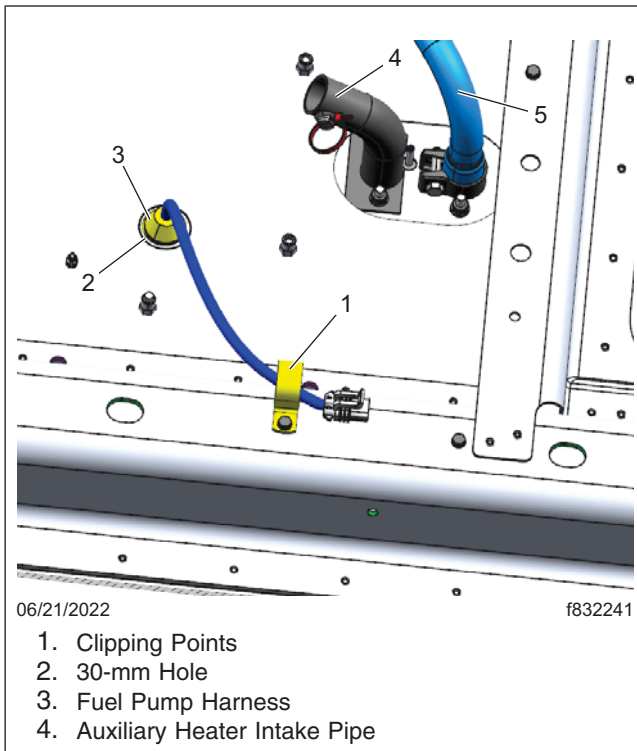
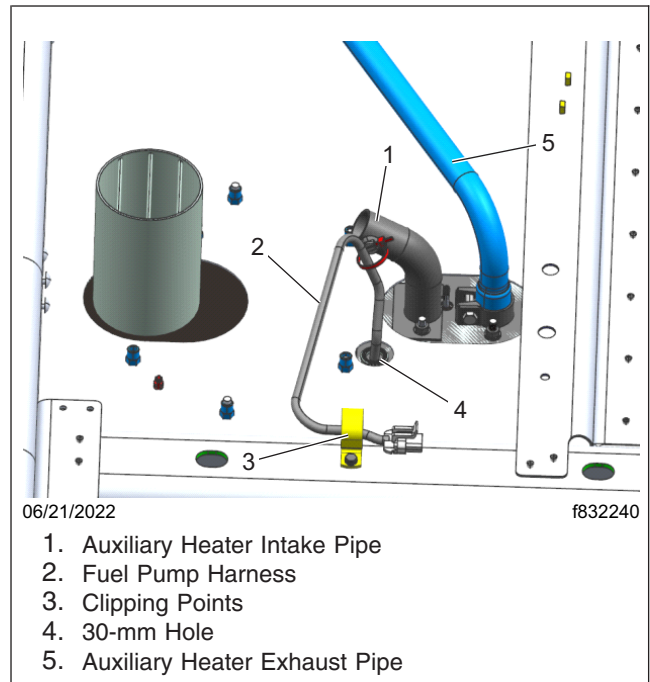
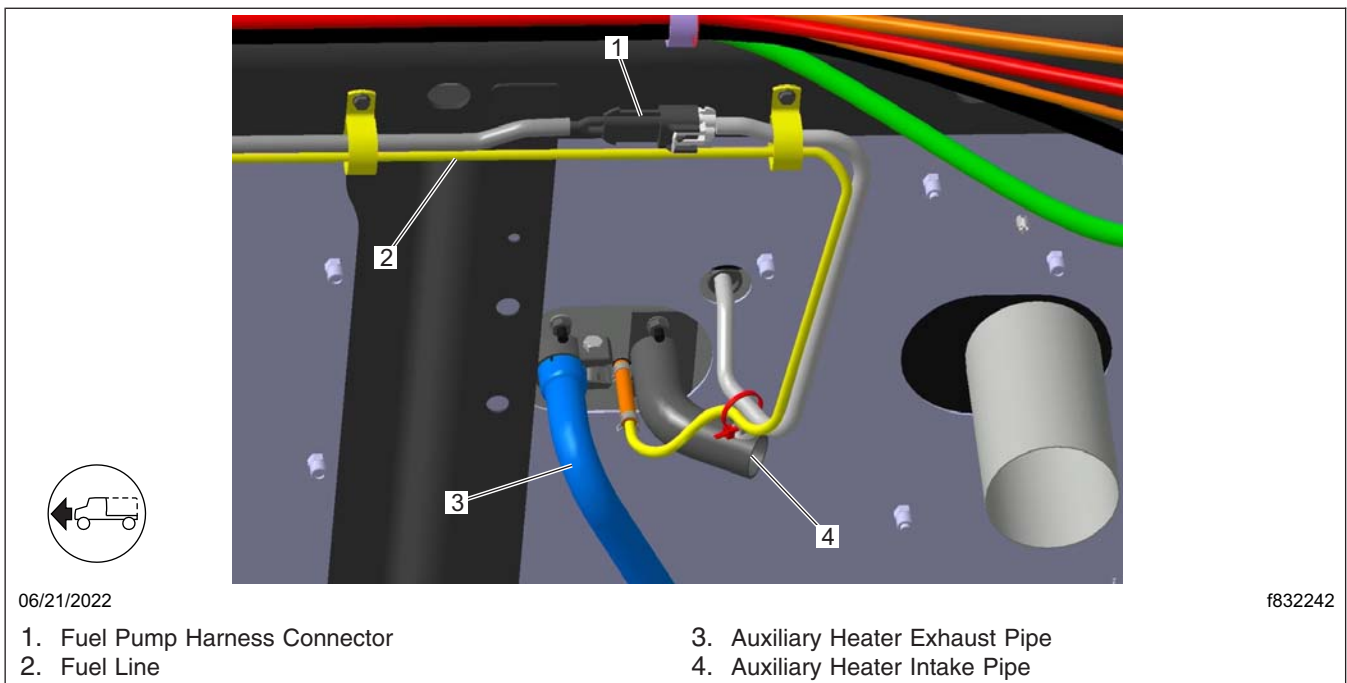

Fig. 13, Clipping Points, 30 mm Hole, Fuel Pump Harness and Auxiliary Heater Intake Pipe
Fig. 14, Auxiliary Heater Exhaust Pipe, Fuel Line, and Clipping Points
Fig. 15, Fuel Pump Harness Connector Routing
18. From underneath the sleeper cab, ensure the auxiliary heater exhaust pipe support bracket is secure. Secure the fuel line and the harness, as required, using the tie straps. See Fig. 13, Fig. 14, and Fig. 15.